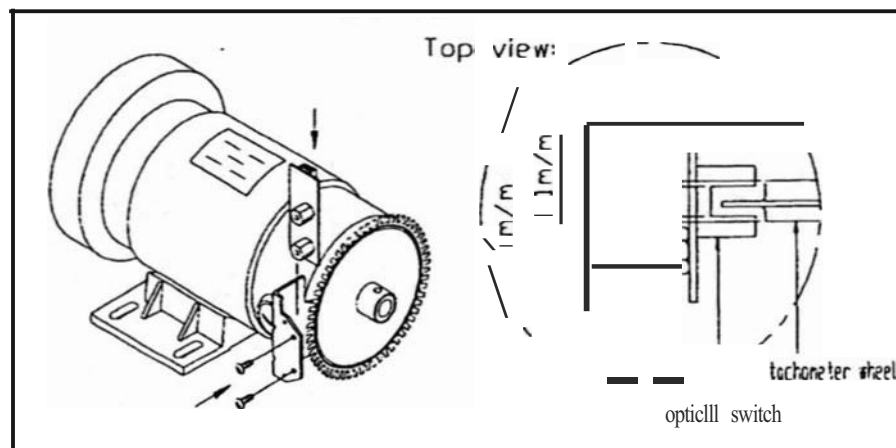

Fig.3
4. Place new optical switch and keep proper space between optical switch and tachometer wheel. Then secure two screws. (see Fig.3)